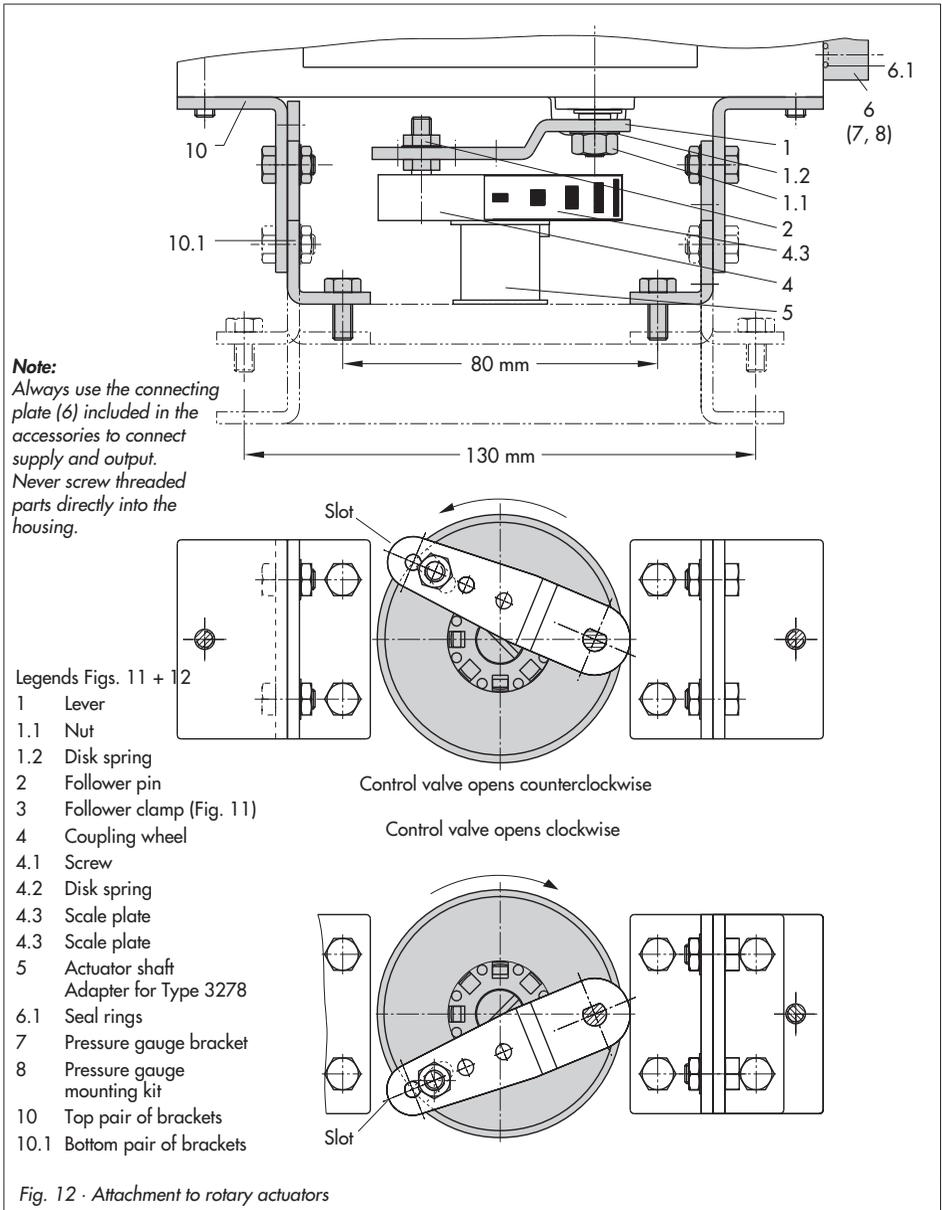

Fig. 12 · Attachment to rotary actuators
1. Place follower clamp (3) on the slotted actuator shaft or the adapter (5).
2. Place coupling wheel (4) with flat side facing the actuator on the follower clamp (3). Refer to Fig. 12 to align the slot so that it matches the direction of rotation when the valve is in its closed position.
4. Screw the bottom pair of brackets (10.1) with the bends pointing either to the inside or to the outside (depending on the actuator size) to the actuator case. Position top pair of brackets (10) and screw tight.
5. Mount connecting plate (6) or pressure gauge bracket (7) with pressure gauges to the positioner, making sure both
6. Unscrew the standard follower pin (2) from the positioner's lever **M** (1). Use the metal follower pin (Ø5) included in the mounting kit and screw tight into the bore for pin position **90°**.
7. Place positioner on the top pair of brackets (10) and screw tight. Considering the actuator's direction of rotation, adjust lever (1) so that it engages in the slot of the coupling wheel (4) with its follower pin (see Fig. 12). It must be guaranteed that the lever (1) is parallel to the long side of the positioner when the actuator is at half its angle of rotation.